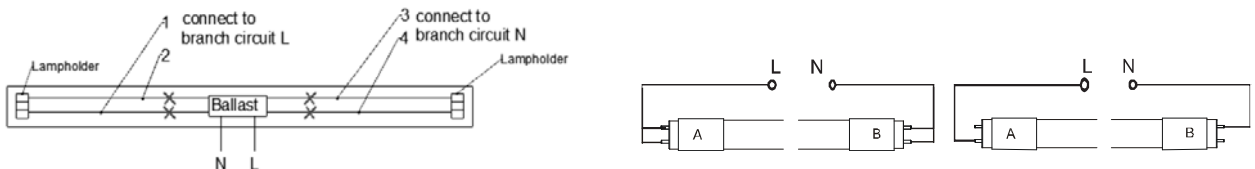

Figure 6
STEP 7b: For “Both Ends” wiring, connect one lead from each lamp holder to branch circuit as follows, “Leads 1 and Leads 2” connected to L; “Leads 3 and Leads 4” connected to N. or “Leads 1” connected to L; “Leads 3” connected to N. as shown in Figure 6.